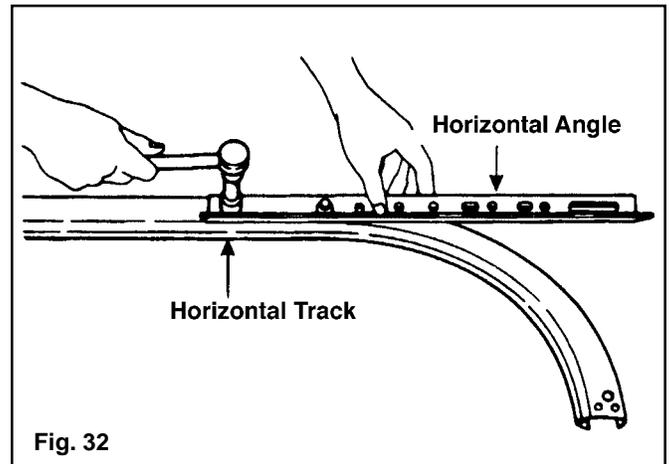

Fig. 32
**Step 4:** Fasten the horizontal angle to the horizontal (curved) track with two  $\frac{1}{4}$ " x  $\frac{5}{8}$ " track bolts and  $\frac{1}{4}$ " flange nuts so that the heads of the track bolts are on the inside of the track. On some doors this angle may be 82" long and will require three additional fasteners per side. If the angle has been pre-assembled, skip Step 4 and proceed with Step 5. (FIG. 32)